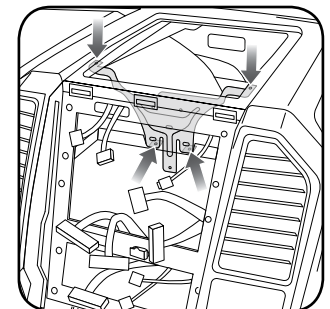

Fig. 4.1
Looking down, from the top of the dash, locate the (2) 8mm bolts securing the camera module's bracket and remove them. Remove the (2) 7mm bolts under the plastic of the top of the dash (bolts aren't visible). Work the metal bracket free from the sub-dash and remove it. (Fig. 4.1)